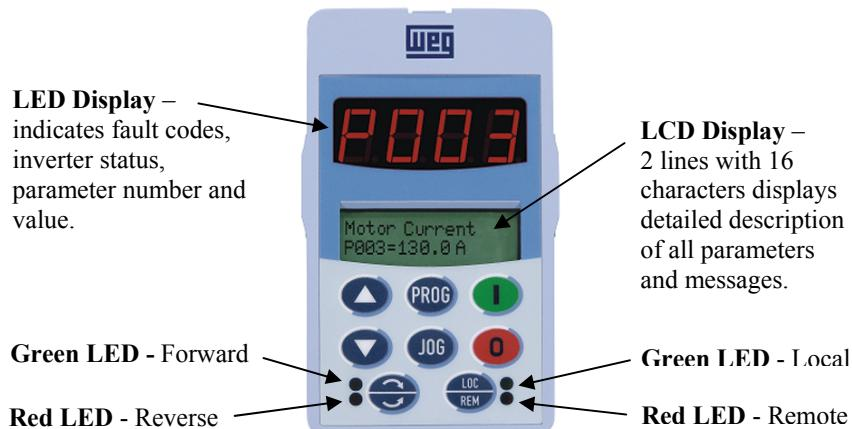

Figure 2 – Keypad Operation
9. Press the  FWD / REV key to change directions. The green and red LEDs on the left side of the keypad indicate rotation direction (Fig. 2)
In the previous section the inverter was operated from the keypad (Local Mode). Note the green local indicator LED on the bottom right of the keypad (Fig.2). For the factory default programming, the selection of the operation mode (Local/Remote) is made via the "Local/Remote" key (default is Local). To pass default of the key to remote, set P220=3. With this setting the inverter will power up in remote mode. Note the red remote indicator LED on the bottom right of keypad (Fig. 2). If you wish to use an external Local/Remote switch (Hand-Off-Auto) set P220=4, connect the switch to one of the Digital Inputs (DI2-DI6), and set the corresponding parameter (P264 to 268=1). To always run in Local mode set P220=0. To always run in Remote mode set P220=1.